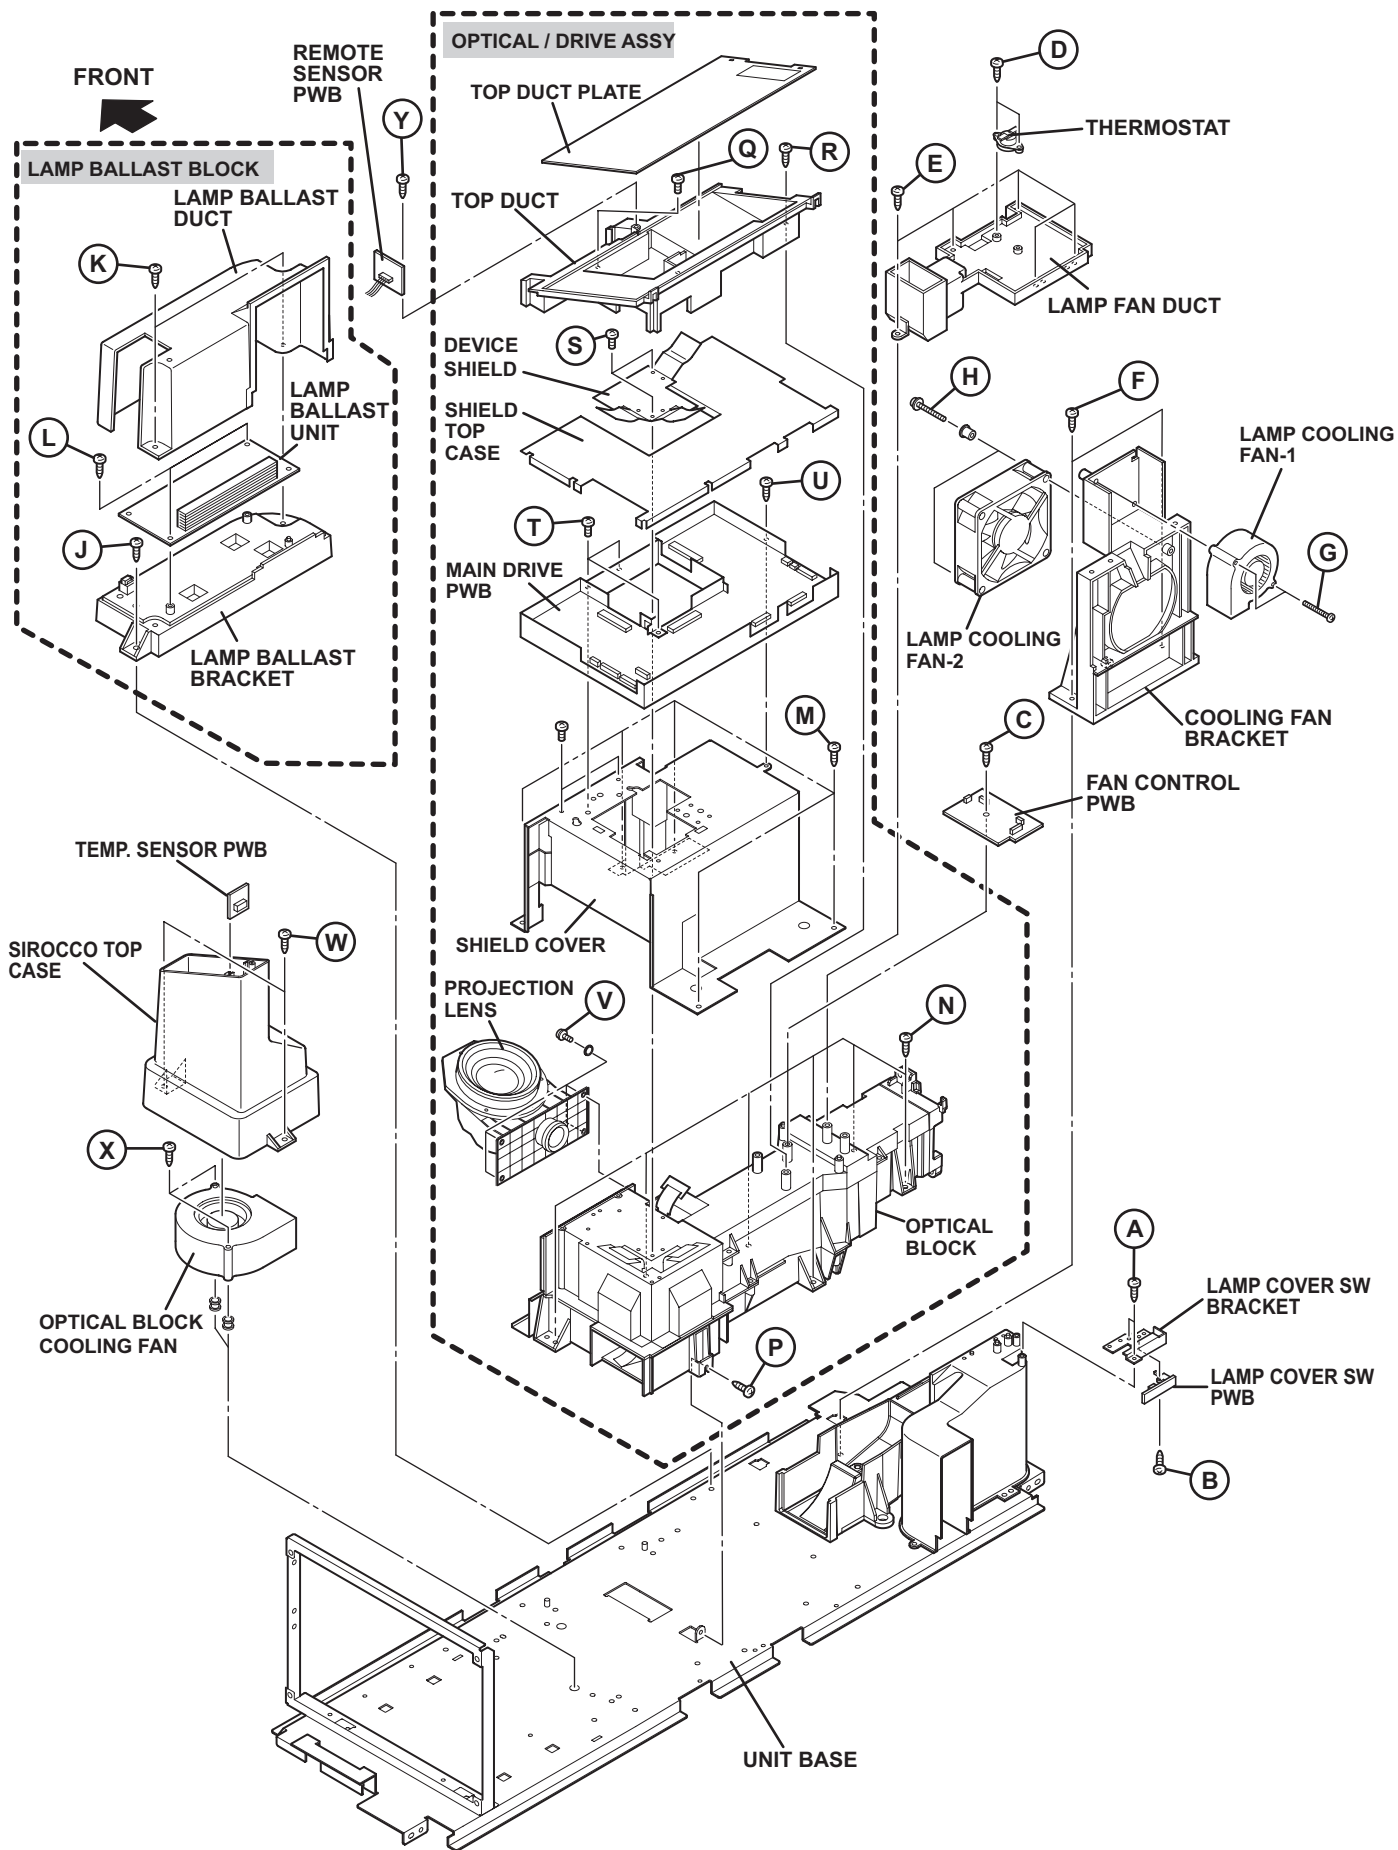

Fig.5
- (1) Remove the 1 screw [C].
- (2) Remove the FAN CONTROL PWB.
3.1.3.15 REMOVING THE THERMOSTAT (Fig.5)
- (1) Remove the 2 screws [D].
- (2) Remove the THERMOSTAT.
3.1.3.16 REMOVING THE LAMP COOLING FAN-1 (Fig.5)
3.1.3.17 REMOVING THE LAMP COOLING FAN-2 (Fig.5)
- (1) Remove the 2 screws [H].
- (2) Remove the LAMP COOLING FAN-2.
3.1.3.18 REMOVING THE LAMP BALLAST BLOCK (Fig.5)
3.1.3.19 REMOVING THE OPTICAL / DRIVE ASS'Y (Fig.5)
3.1.3.20 REMOVING THE MAIN DRIVE PWB (Fig.5)
3.1.3.21 REMOVING THE PROJECTION LENS (Fig.5)
- (1) Remove the 4 screws [V].
- (2) Remove the PROJECTION LENS.
3.1.3.22 REMOVING THE OPTICAL BLOCK COOLING FAN (Fig.5)
3.1.3.23 REMOVING THE REMOTE SENSOR PWB (Fig.5)